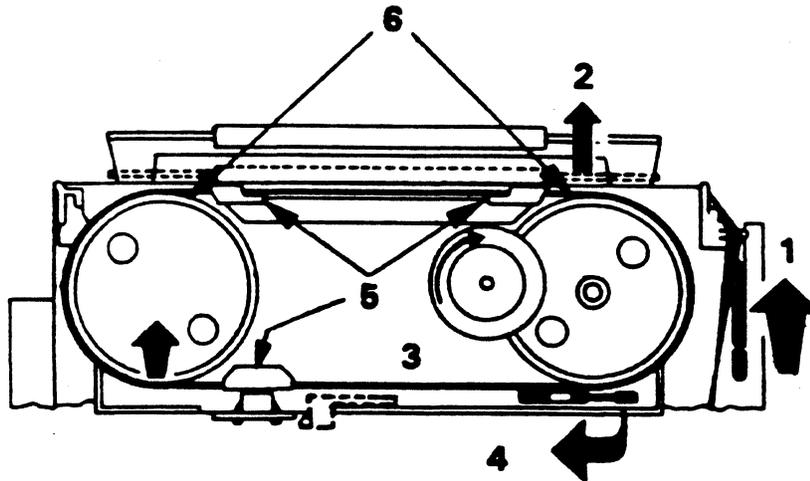

Figure 1-7 Installing the Print Band
2. Open ribbon shield support as shown in Figure 1-7.
4. Locate the lever (4) in the right side of the band compartment. Lift this lever to relieve band tension. CAUTION - DO NOT lift lever in center of compartment.